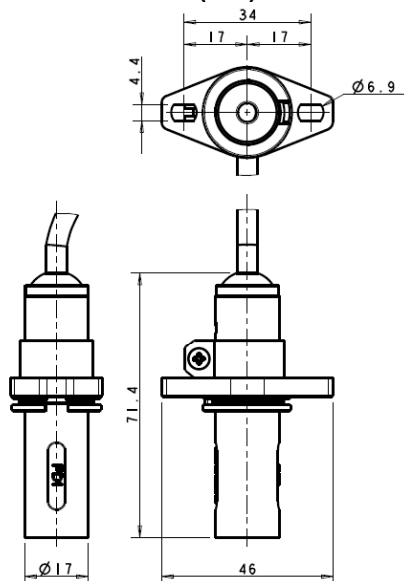

Figure 1
- (a) 1: Front view (figure 1)